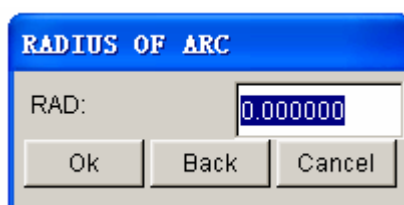

Figure 5.1.7 Radius of Arc dialog box
- Enter the radius in the input field of RADIUS OF ARC dialog box as illustrated in Figure 5.1.7.